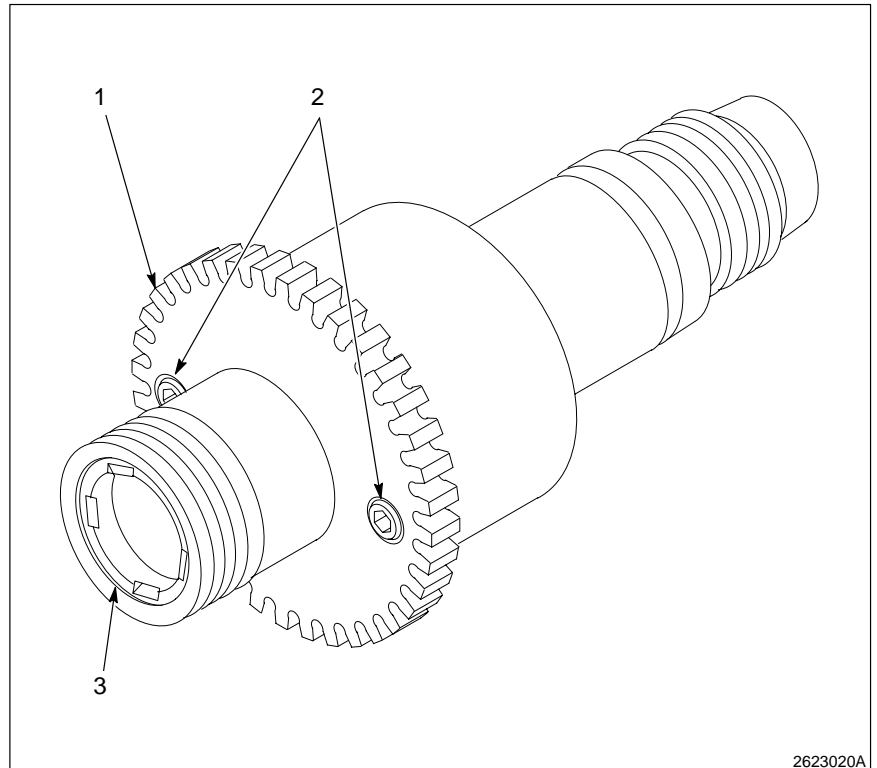

Fig. 7-9 Spindle Assembly
1. See Figure 7-9. Remove the gear (1) from the spindle by removing the retaining screws (2).
2. Remove the rear seal (3) only if necessary. If the seal is removed, replace the seal with a new one.
2. See Figure 7-9. Install a new rear seal (3) if necessary.